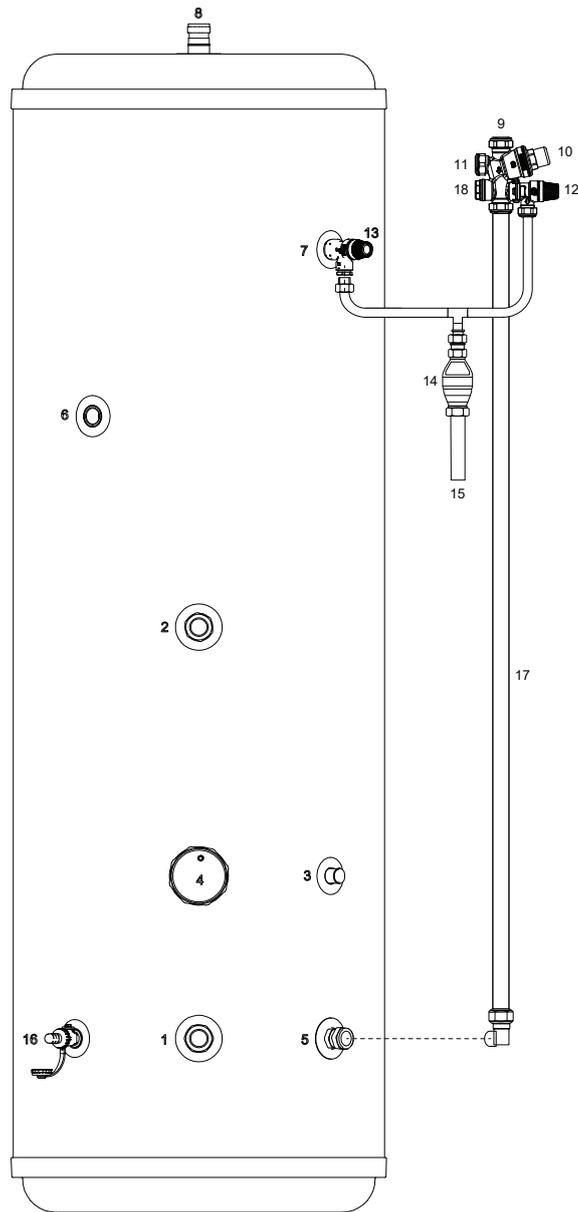

Figure 2-3: Grant QR cylinders
2. Locate the dual thermostat probes in the stainless steel stat pocket (refer to Figure 2-3, for location) and secure using the retaining screws on the thermostat housing.